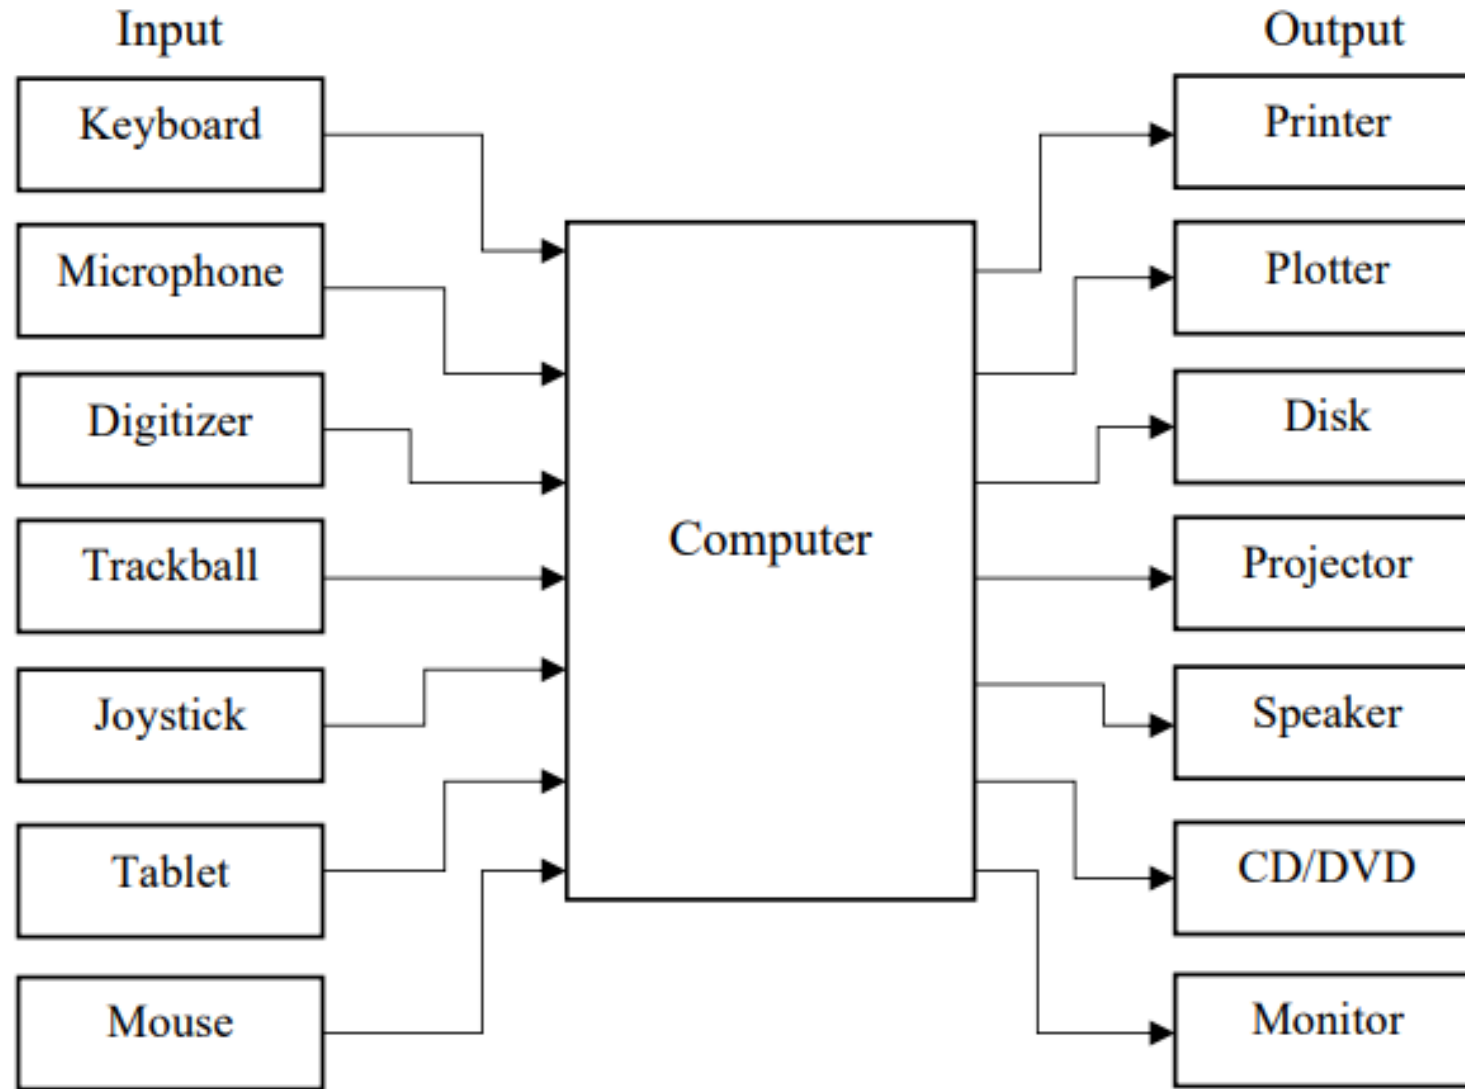

Figure 3.2: Input and output devices
1. the CAD system components are divided into input devices and output devices as illustrated in Figure 3.2.